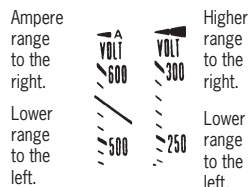

Fig.9
- For quick and easy identification the dial drum is marked with the symbols as illustrated below (Fig.9).